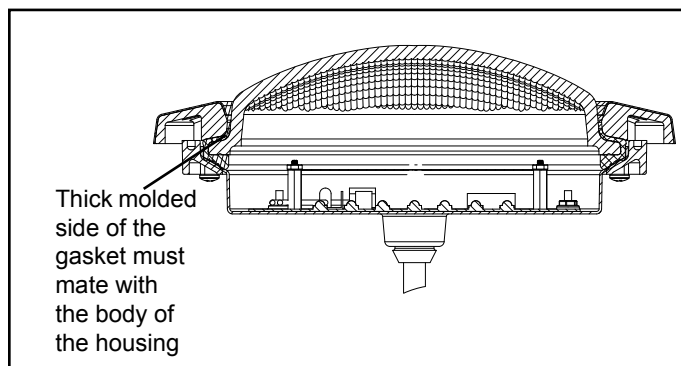

Figure 10. Cross Section of Jandy Pro Series WaterColors LED Light
- b. While holding the fixture upright, place the glass lens with the gasket on top of the fixture. Please note that the lens gasket is not symmetrical. Therefore, it must be installed correctly so that the lens can seal to the fixture housing. Place the gasket on the lens so that the thick molded side of the gasket will mate with the housing when the lens is installed, see Figure 10. On the small light, replace the diverger by tucking the tabs between the lens and gasket.